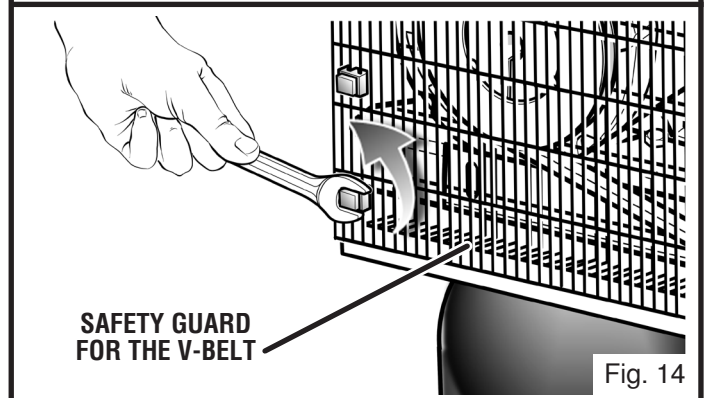

Fig. 14
See Figures 14 - 15.
- Unplug the power cord and remove the safety guard for the V-belt (figure 14).